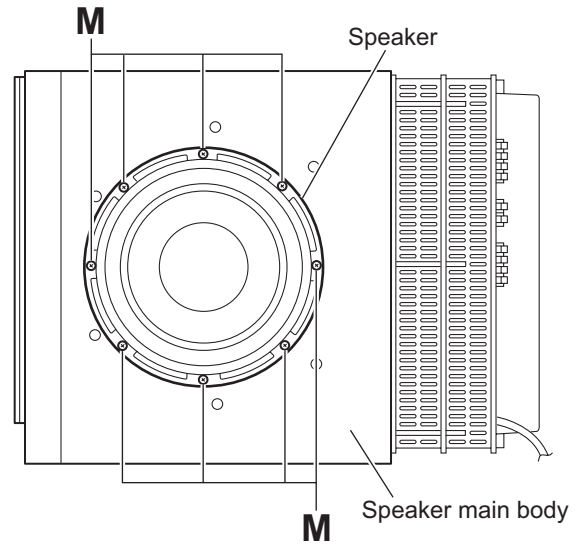

Fig.14
3.3.10 Removing the speaker (See Figs.14 and 15)
- (1) From right side of the speaker main body, remove the eight screws **M** attaching the speaker. (See Fig.14)